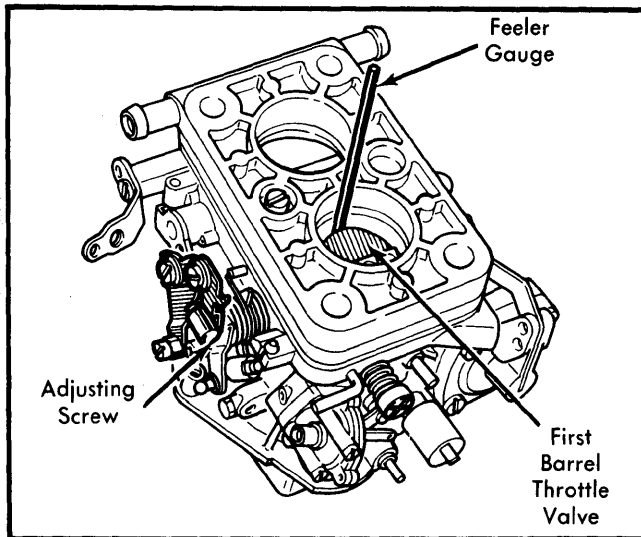

Fig. 3 Initial Throttle Valve Opening Adjustment (California Model Shown)
2) To adjust, remove plastic cap and turn adjusting screw until specification is reached. See Fig. 3. After adjustment, tighten lock nut (if equipped) and install new plastic cap over adjusting screw.
1) Install .059" (1.5 mm) feeler gauge as shown in Fig. 3 to maintain the initial opening of the first barrel throttle plate.